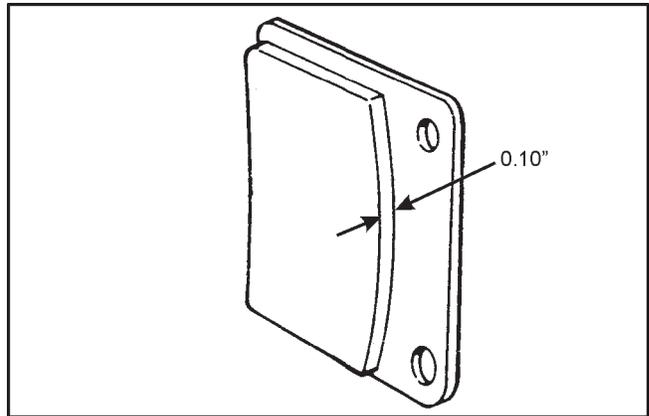

Figure 7-17. Brake pad wear, hydraulic brakes.
- the brake lining material molded to each metal backing plate is worn to 0.10" thickness. (Figure 7-17)